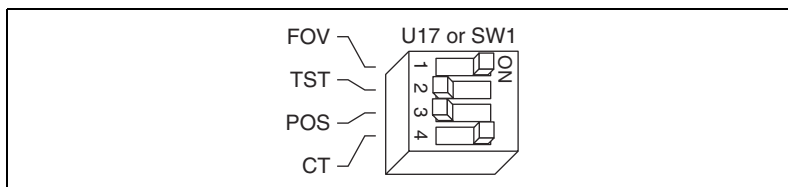

Figure B-3. Restoring the Factory Configuration on the PCI-MXI-2 or PCI-MXI-2 Universal
3. Change switch 1 (FOV) on U17 or U6 to the ON position as shown in Figures B-3 or B-4 to restore the factory configuration.